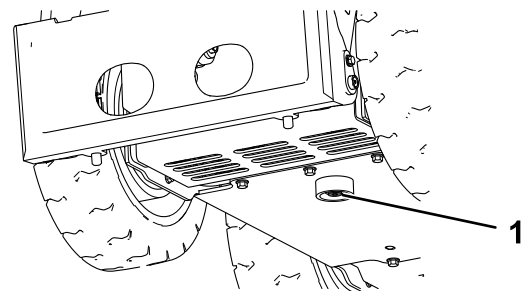

Figure 43
1. Bolt (2)
6. Remove the drain plug from the bottom of the hydraulic tank and allow the fluid to completely drain (Figure 43).